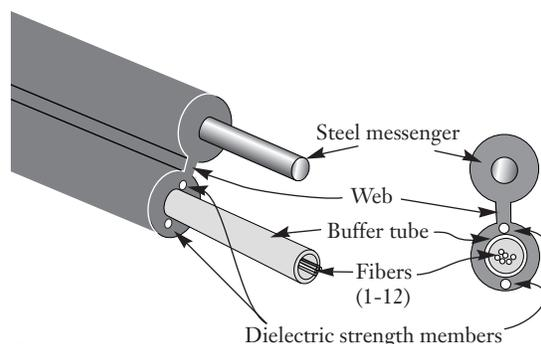

Figure 1
1.2 SST Figure-8 Drop cables are outside plant cables incorporating both a steel messenger and a single buffer tube with up to 12-fibers into a single jacket of “Figure-8” cross-section (Figure 1). The combination of messenger and optical fiber into a single cable results in a rapid installation and a more durable aerial cable plant.